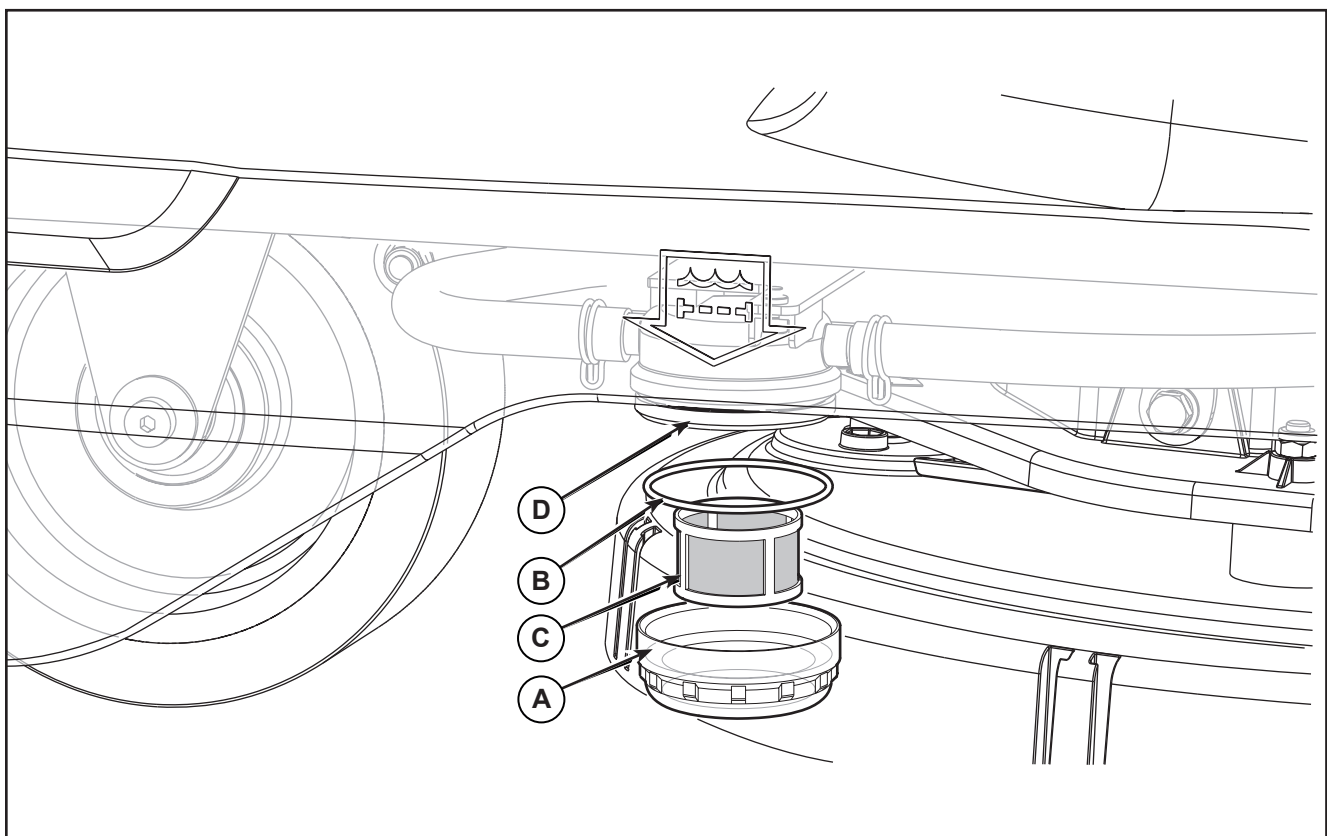

Figure 7:
4. Remove the transparent cover (A, Figure 7), retrieve the gasket (B) and remove the filter strainer (C).
5. Wash and rinse them with water, then refit them carefully onto the filter support (D). Do not over tighten.